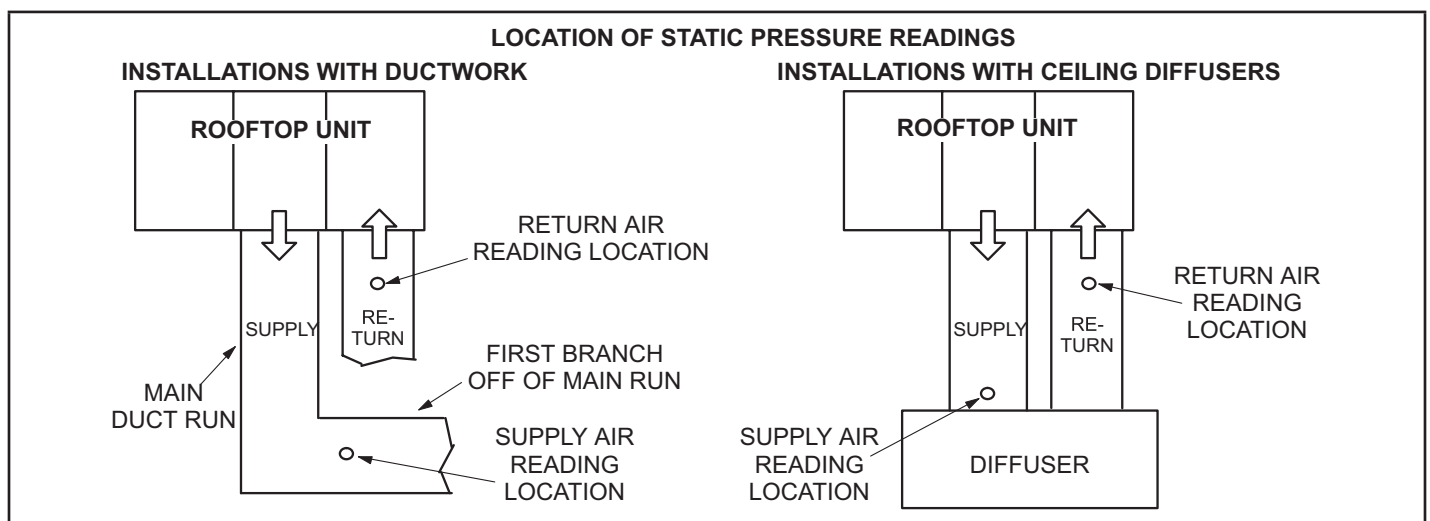

FIGURE 6
- 3 - With all access panels in place, measure static pressure external to unit (from supply to return). Blower performance data is based on static pressure readings taken in locations shown in figure 6.